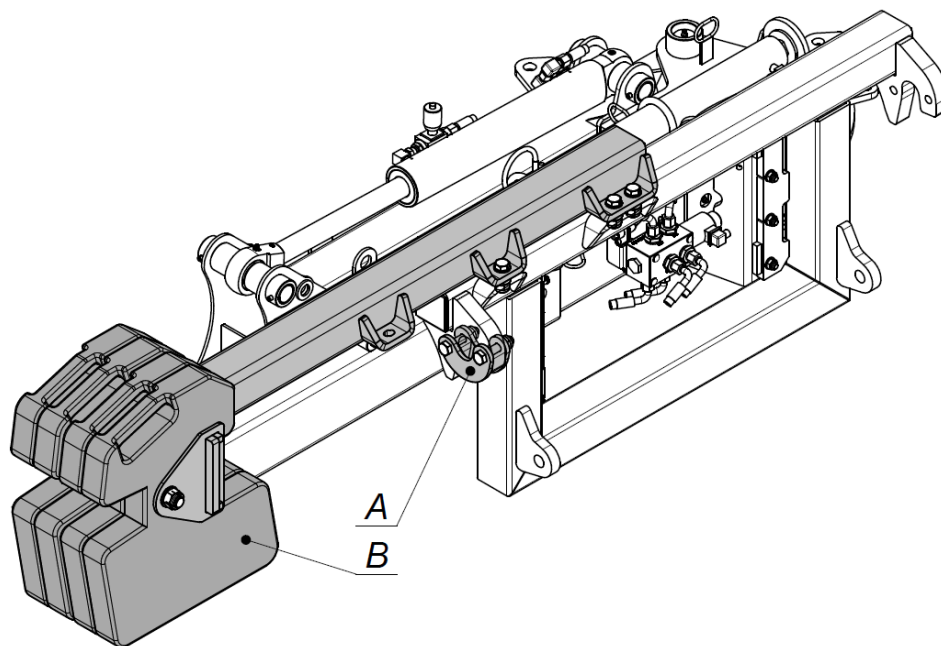

Fig. 12. Counterweight on Fisher carrier
Please note that in working position, and with the arm extended to its maximum in particular, the centre of gravity is shifted. To improve the vehicle's stability it is recommended that with EURO type hitch – lock (A) counterweight (B) are used (Fig. 12).